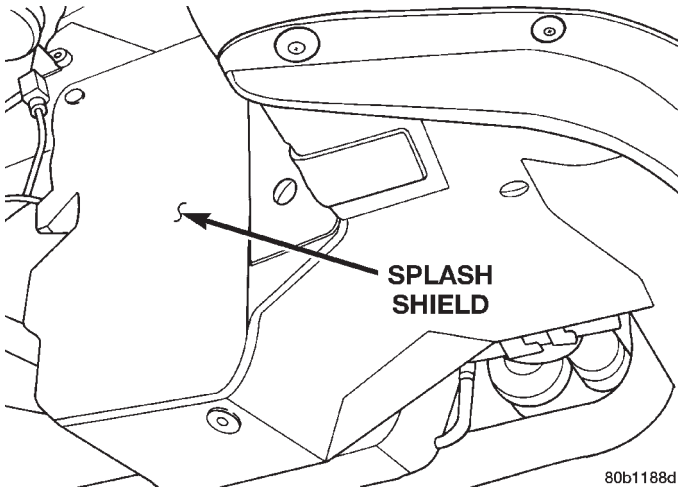

Fig. 2 Accessory Drive Splash Shield
- (5) Remove the accessory drive splash shield (Fig. 2).
(19) Install accessory drive splash shield (Fig. 2).
(20) Install wheel and tire. Tighten the wheel lug nuts in proper sequence until all lug nuts are torqued to half specification. Then repeat tightening sequence to full specified torque of 129 N·m (95 ft. lbs.).
(21) Lower vehicle.